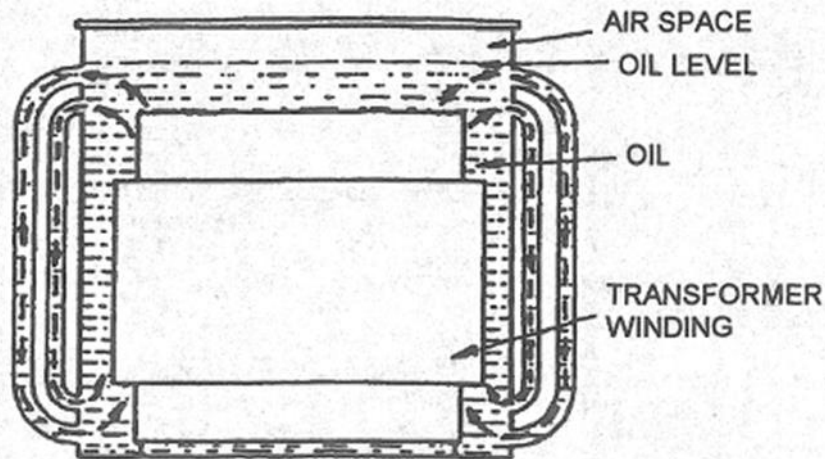

Figure 5 Hot oil rises - Cooled in tubes - Returns to tank bottom
13. External tubes added to the transformer tank further increase the radiation surface, as well as providing a thermo-siphon effect, where the oil circulates by convection throughout the windings, tank and tubes. See Figure 5.